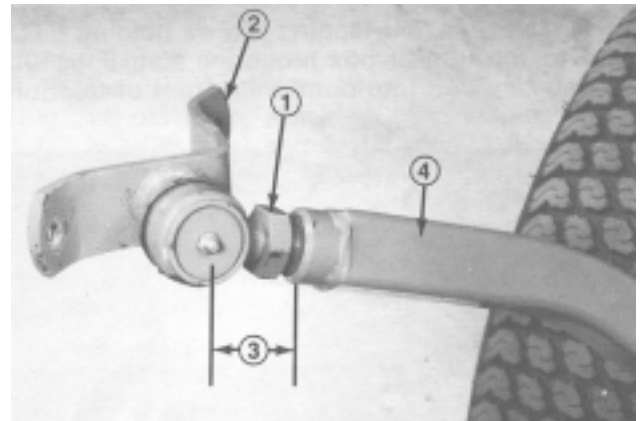
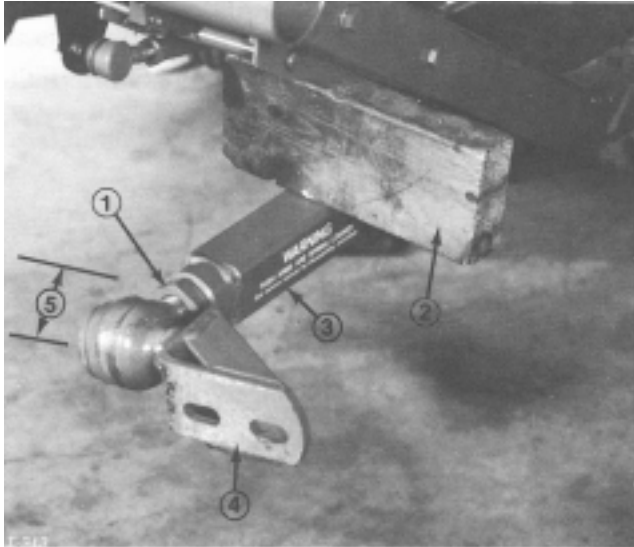

Figure 8
Figure 9
- Screw ball joint into right hand push arm until center of ball joint is 2-3/8 inches (60 mm) away from front of push arm (Fig. 8). Do not tighten jam nut.
- Have a helper push down on the left push arm. Then insert a 2 x 4 in. (51 x 102 mm) block of wood between the frame and top of the push arm (Fig. 8). Screw ball joint into left hand push arm until center of ball joint is 2-3/8 inches (60 mm) away from front of push arm (Fig. 9). Do not tighten jam nut.